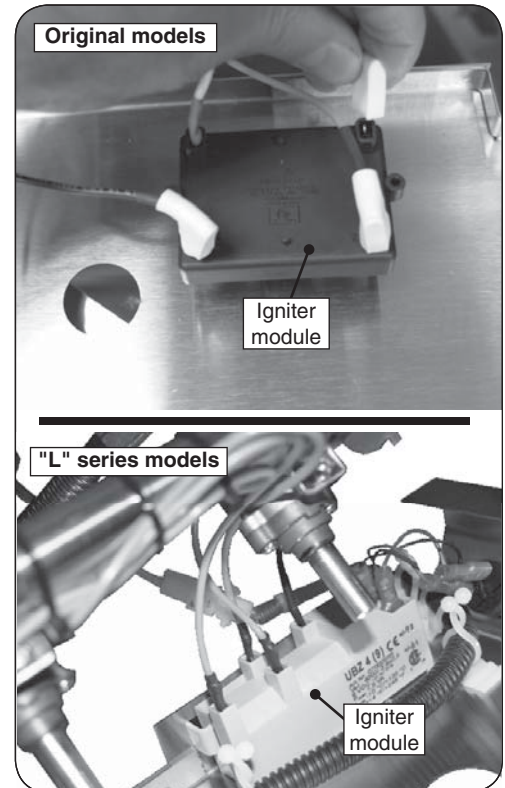

Fig. 4-2 Connect wire to the igniter module
5. Attach the other end of the new igniter wire assembly (the insulated end) to any connector on the back of the igniter (see Fig. 4-2).
6. Re-install the other ignition wires by plugging them into the terminals on the igniter module (Fig. 4-2).